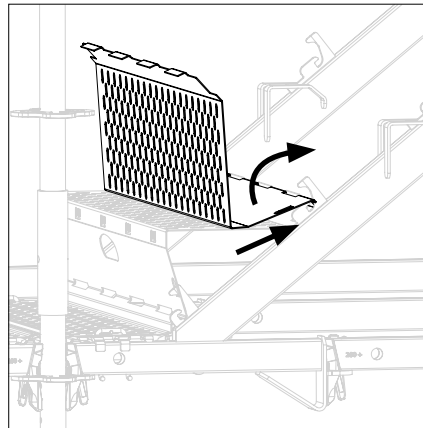

Fig. A2.05
1. Position the second step (7) with the front side on the first step. Tilt the step forwards into the supports of the Stair Stringers UA (6). The upturned edges engage in the slits. (Fig. A2.05)